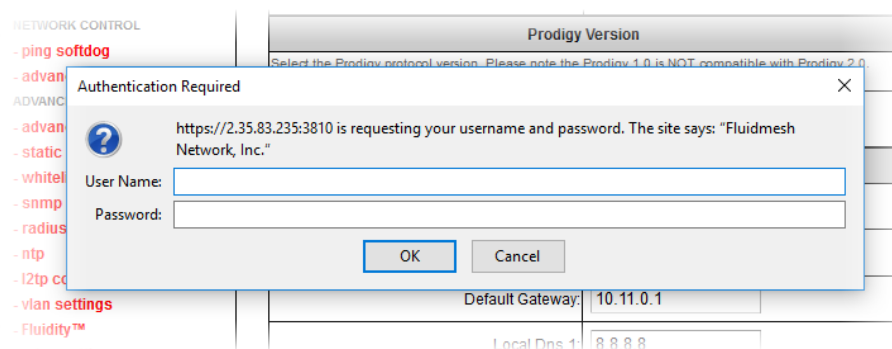

Figure 48. Web browser (Authentication Required dialog)
- The web browser will show the **Authentication Required** dialog (Figure 48 (page 98)). If needed, use the dialog to log in again.